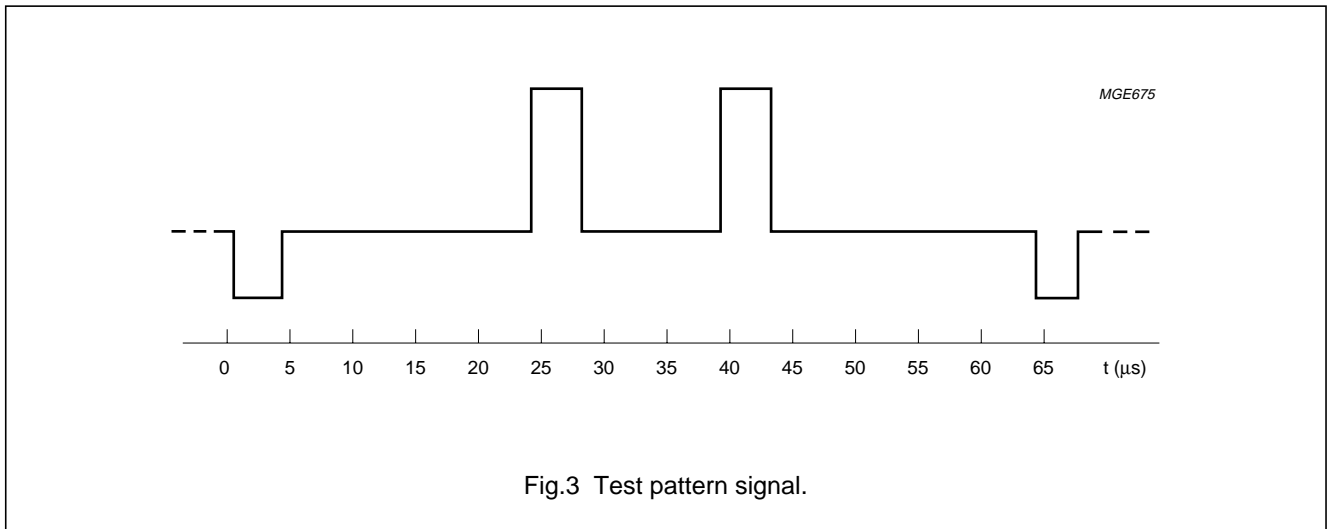

Fig.3 Test pattern signal.
- The video part also contains a TPSG. This TPSG generates a pattern that helps to tune the TV set to the programmed channel of the modulator. The pattern consists of a sync pulse and two vertical white bars on the screen (see Fig.3)